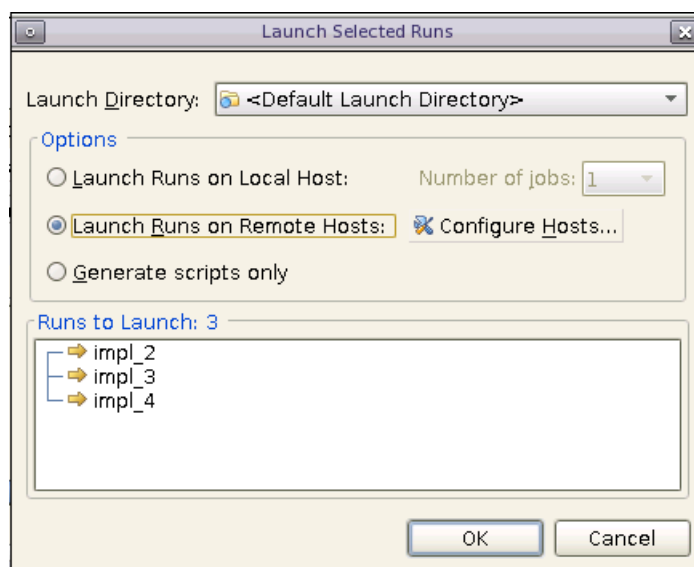

Figure 1-14: Launch Selected Implementation Runs
2. Select **Launch Runs** to open the Launch Selected Runs dialog box. See Figure 1-14, Launch Selected Implementation Runs.